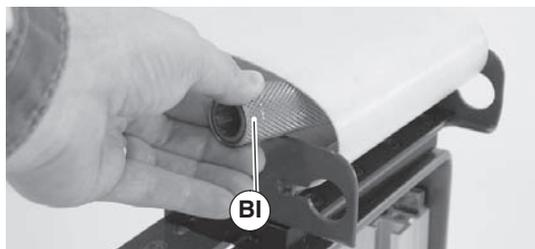

Figure 37
9. Remove pulley (Figure 37, item BI).